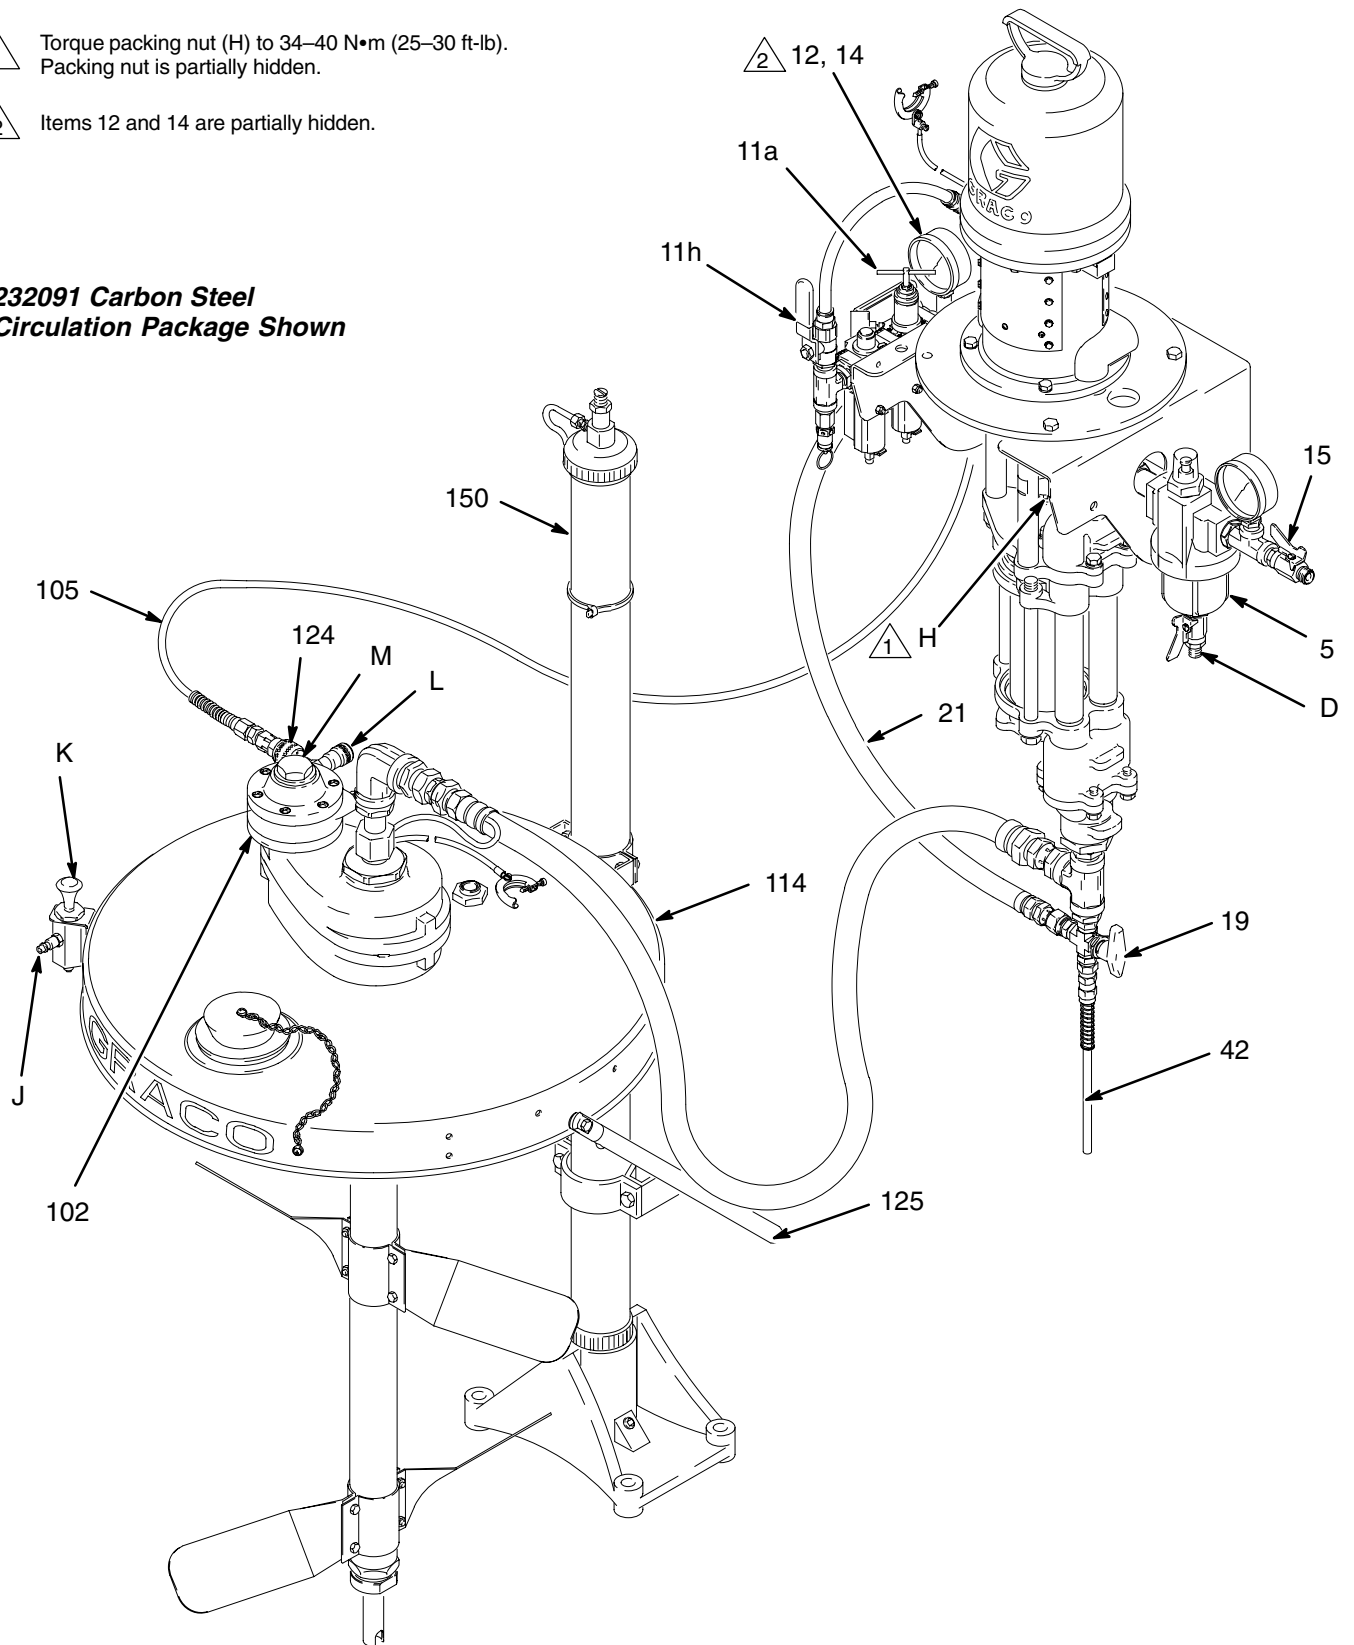

Fig. 5
1. Close the red-handled bleed-type master air valve (11h, required in your system). See Fig. 5 on page 15.
2. Place the drain hose (42) into a waste container. Turn the 3-way recirculation valve (19) to the drain position.
4. Open the drain valve (D) to relieve fluid pressure which may be trapped in the pump or hose.
Before starting, fill the packing nut (H) 1/3 full with Graco Throat Seal Liquid (TSL) or compatible solvent. See Fig. 5 on page 15.
1. Open all fluid shutoff valves (14, 15). Refer to Fig. 1 on page 9, and to Fig. 5.
2. Open the back pressure regulator (12). Turn the 3-way recirculation valve (19) to the circulation position.
6. Adjust the fluid pressure to the lowest setting necessary to get the desired results. Higher pressures may not improve the spray pattern and will cause premature component wear. Use the air filter/regulator (11a) and the back pressure regulator (12) to adjust the pump speed and fluid pressure until the spray is completely atomized. Refer to the back pressure valve manual (supplied) for adjustment procedures.
8. When you have achieved the desired spray pattern, release the gun trigger. The pump will continue to cycle as long as air is supplied and the back pressure regulator (12) is open.